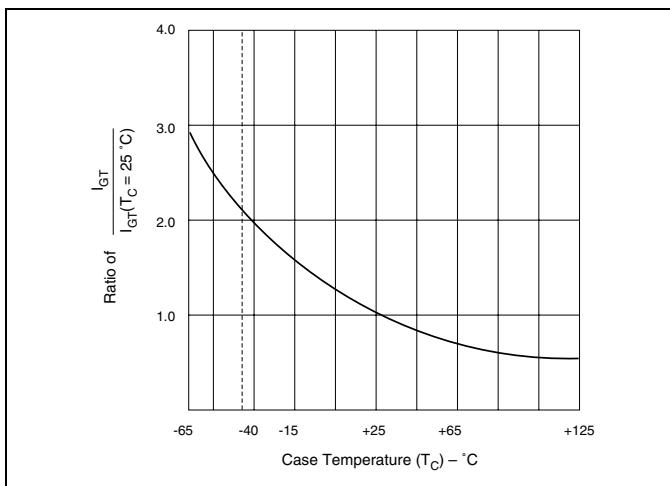

Figure E2.11 Normalized DC Gate Trigger Current for All Quadrants versus Case Temperature
- (7) See Figure E2.11 for I_{GT} versus T_C.